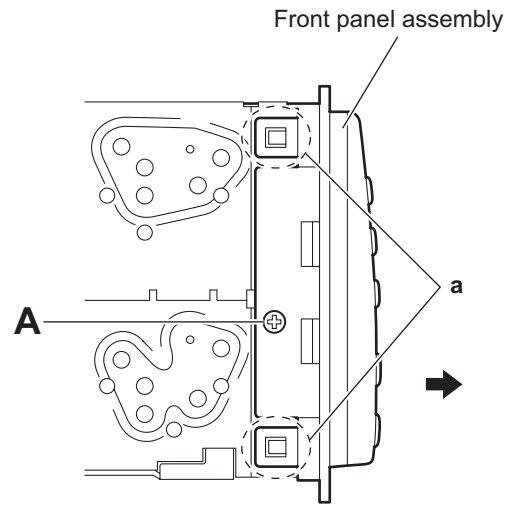

Fig.1
3.1.1 Removing the front panel assembly (See Figs.1 and 2)
- (1) From the both side of the main body, remove the two screws **A** attaching the front panel assembly. (See Figs.1 and 2.)
- (2) Release the four joints **a** and remove the front panel assembly in the direction of the arrow. (See Figs.1 and 2.)